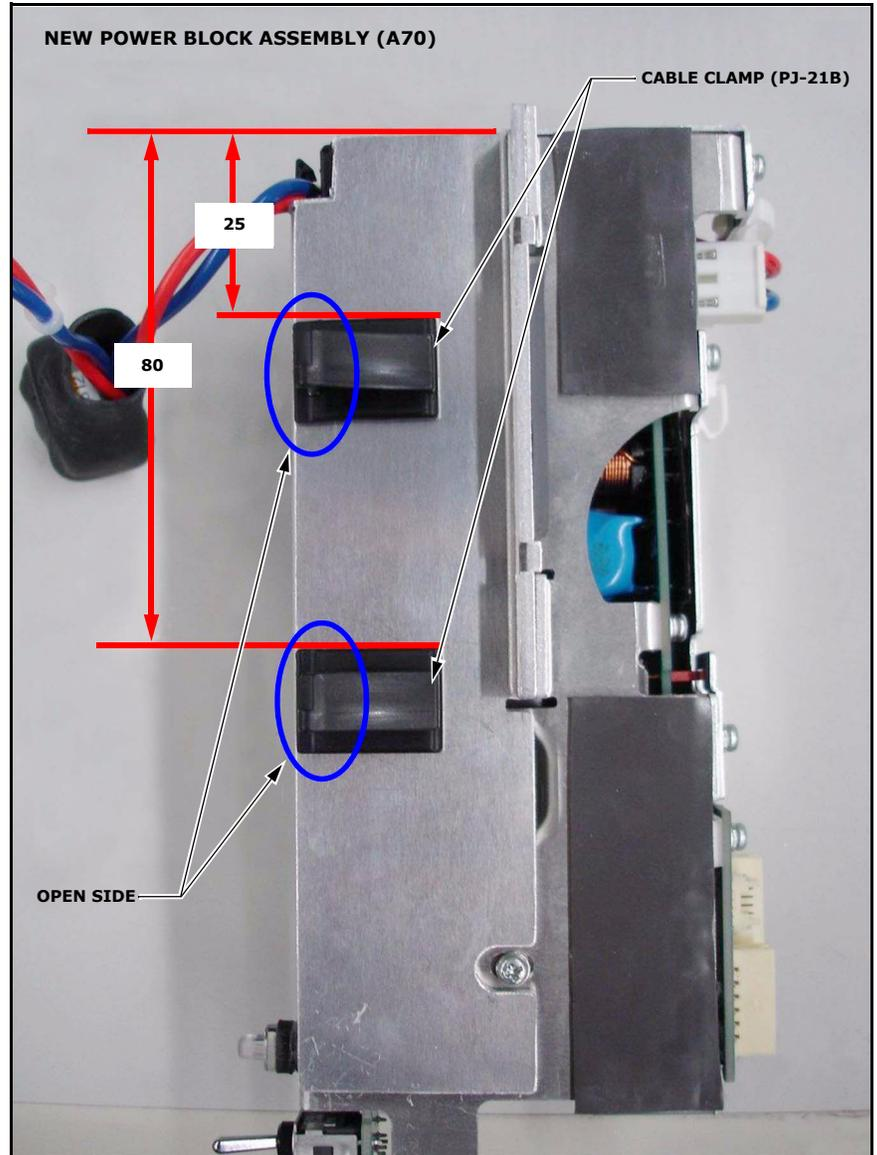

Figure 6
1. For Triax cameras, attach the two new cable clamps (PJ-21B) to the power block assembly as shown in Figure 6.